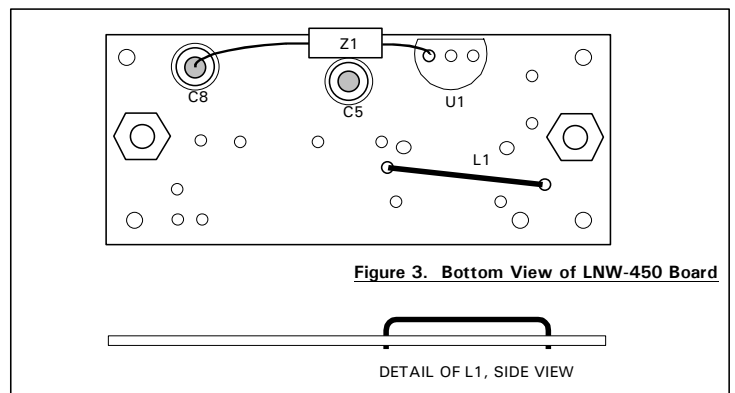

Figure 3. Bottom View of LNW-450 Board
i. Turn the preamp over, and orient it as shown in figure 3. Position ferrite bead Z1 as shown. Note that positioning the body of the bead against the feedthrough capacitor prevents its leads from shorting to anything. Solder one lead to the inside metalization of ft cap C8, and tack solder the other lead to the pad for the left-hand lead of U1 as shown. If there already is solder on the bottom of C8, melt it and slide the lead in.